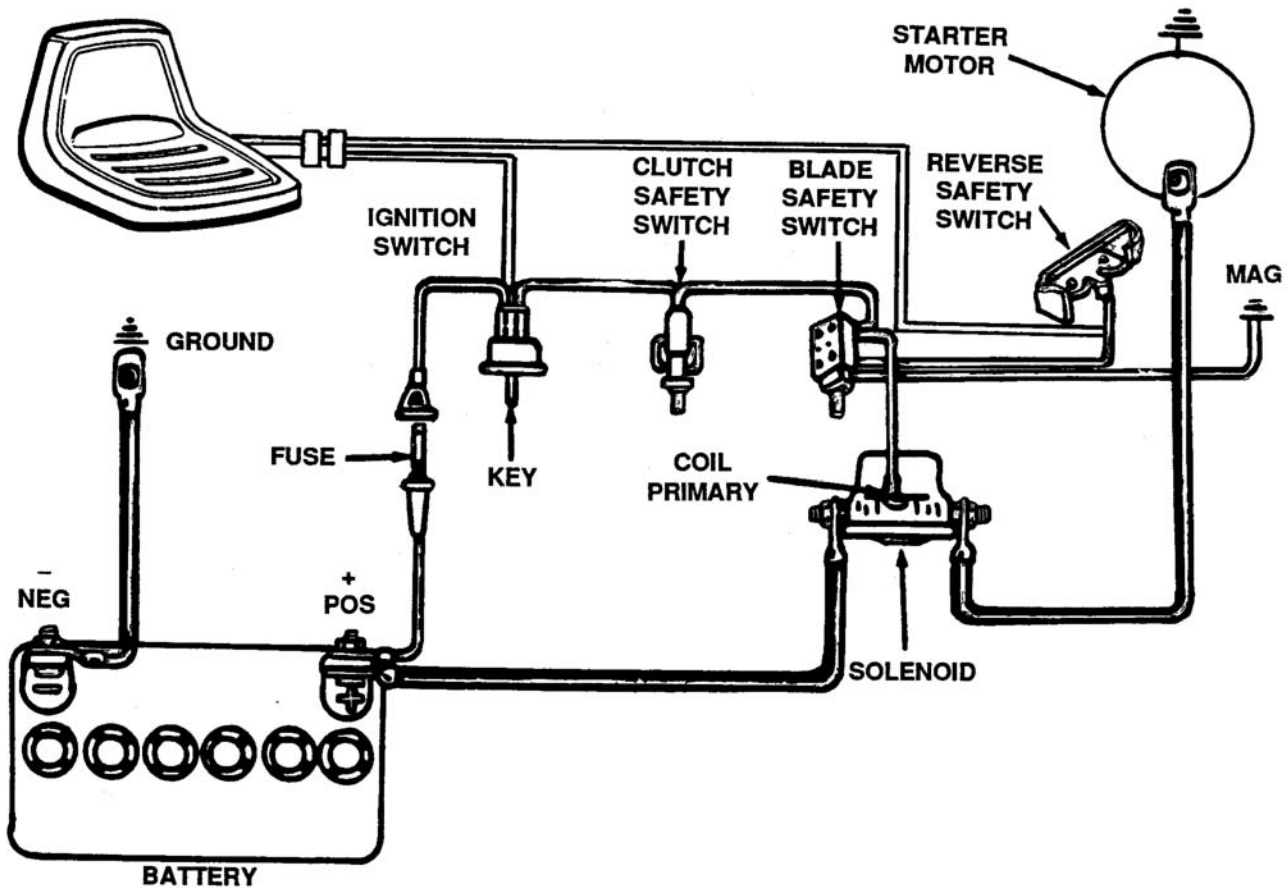

Figure 3-8. Typical Electric Start System
- Before the engine will crank, the key must be turned on and both of the safety switches must be activated. One is activated when the clutch is depressed and one is activated when the blade is disengaged. When this happens the circuit will be complete between the battery and the coil primary of the solenoid. This will close the solenoid which will allow the starter motor to crank the engine. The safety switches are wired in series on the electric start models. See Figure 3-8.